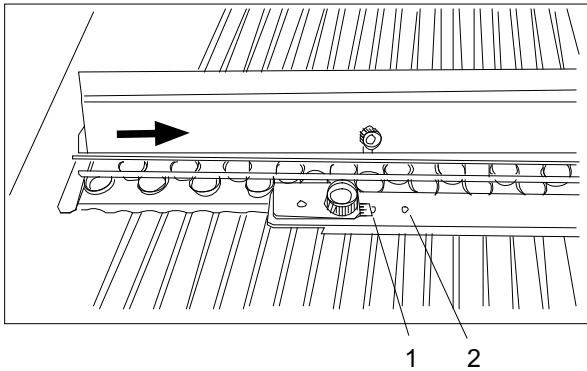

Fig. 83 Setting the alignment rail forward
3. Slide the alignment rail in direction of the fold roller infeed area until the screw fits into the first hole (Fig. 83/1) (width of one roller) or in the second hole (Fig. 83/2) (width of two rollers) of the longitudinal cross bar.